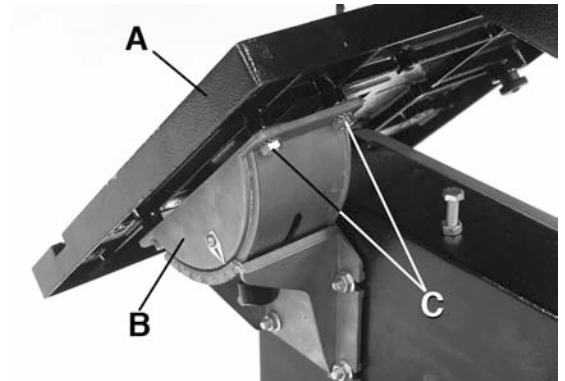
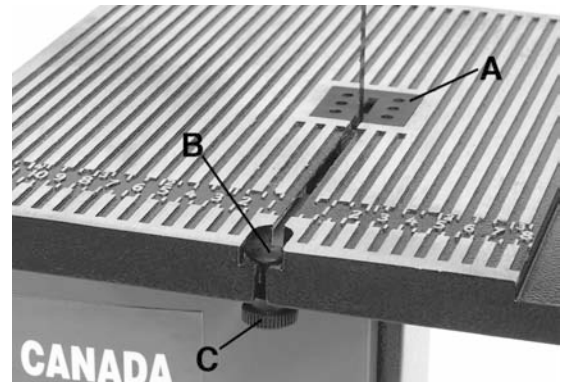

FIGURE 4
FIGURE 5
- 1) Remove the carriage bolt and plastic nut from the table (see B & C Fig.5 as reference) to allow the blade to slide into the table slot. Slide the blade through the slot in the table and then place the table (A) Fig.4 onto the bandsaw trunnion (B).
- 3) Fasten the table to the trunnion using four hex. bolts and tooth washers (C) Fig.4.
- 4) Place the table insert (A) Fig.5 in the opening in the table. Install the carriage bolt (B) and plastic nut (C) to the table and tighten.